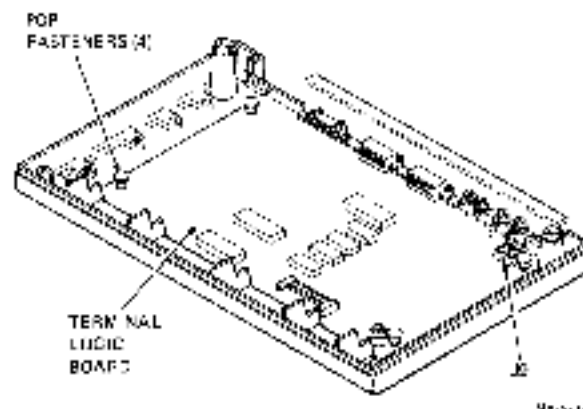

Figure 6-8 Terminal Logic Board Removal
4. Release the four (4) pop fasteners securing the logic board to the bottom cover (Figure 6-8). To release the pop fasteners pull up on the plungers.